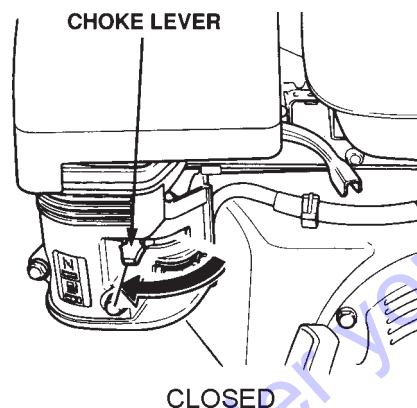

Figure 9. Engine Choke Lever (Closed)
3. Place the **choke lever** (Figure 9) in the "CLOSED" position if starting a **cold** engine.